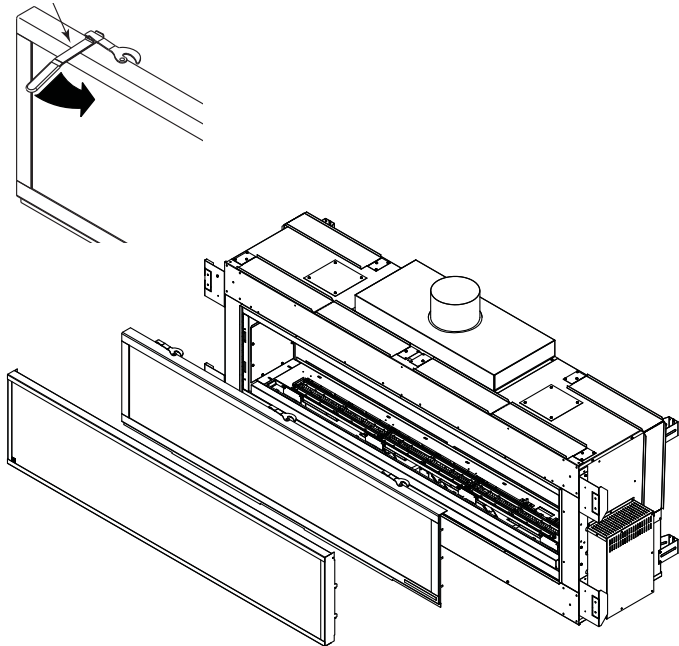

Figure 42 - Remove Safety Barrier and Glass Frame
1. Remove the glass door. Use glass door latch tool packed with unit to unlatch the three (3) frame latches. *Page 29, Figure 42.* **NOTE:** Glass door is heavy; an assistant may be necessary.